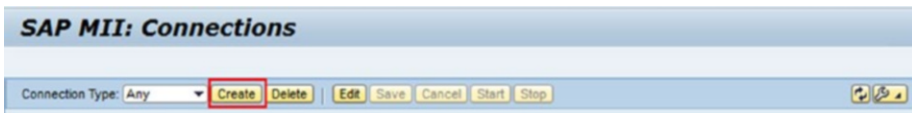

Figure 6-91. Create SAP MII Connections
2. On the Connections page, Click on Create, as shown in Figure 6-91.